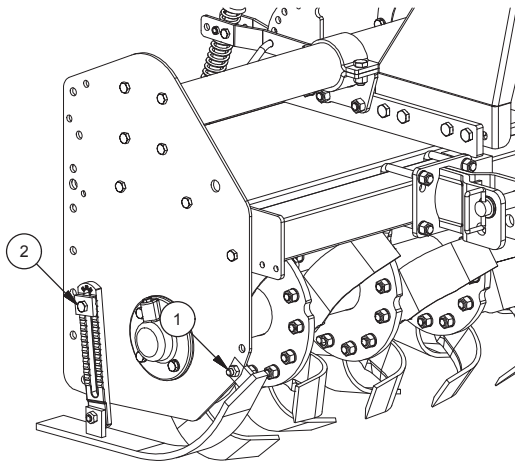

FIG. 28
IF THERE ARE SIDE SKIDS ADJUST THEM AS DESCRIBED BELOW IN FIG. 28
Loosen nuts (1, Fig. 28), act upon the rear regulator by loosening the nut (2). Withdraw downwards to reduce the working depth; Insert upwards to increase the working depth. Tighten nuts (1 and 2, Fig. 28).